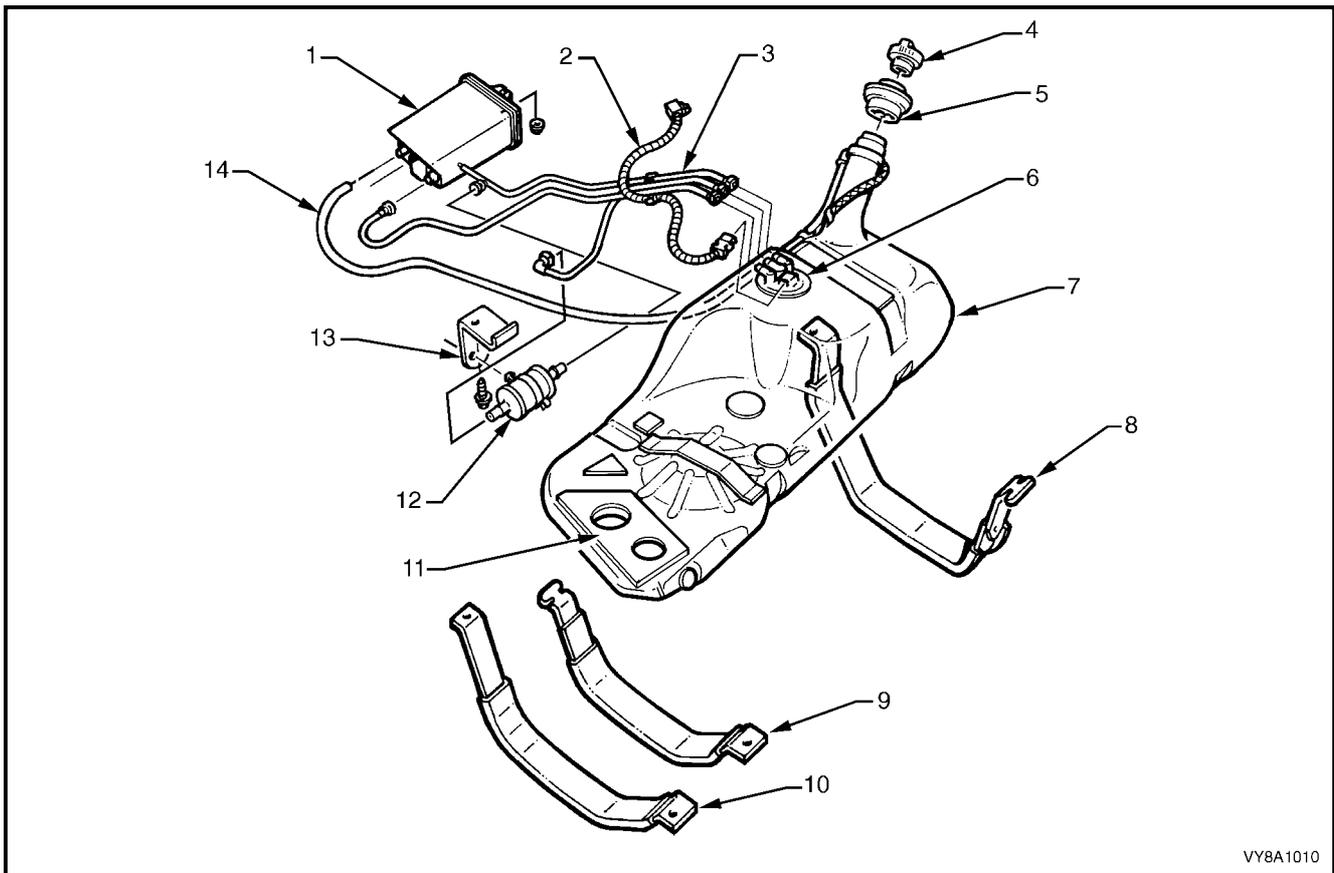

Figure 8A1-52
SERVICE NOTE: Refer to Figure 8A1-51, for GEN III V8 engines use special tool 7371 to remove the fuel feed/return to engine hose (1) quick-connect fitting and special tool AU533 to remove the fuel vapour hose (2) quick-connect fitting, refer to **2.10 QUICK-CONNECT FITTINGS**.